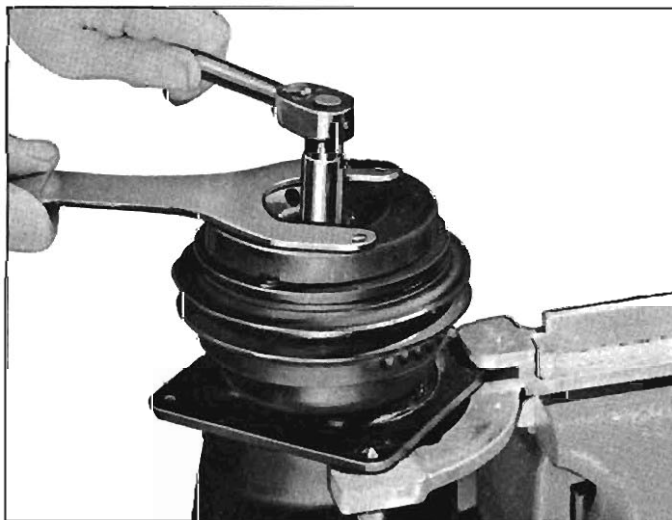

Fig. 11-31—Removing Shaft Locknut
2. Using drive plate holding tool J-9403 and socket J-9399, remove the locknut from the shaft (fig. 11-31). Discard locknut.